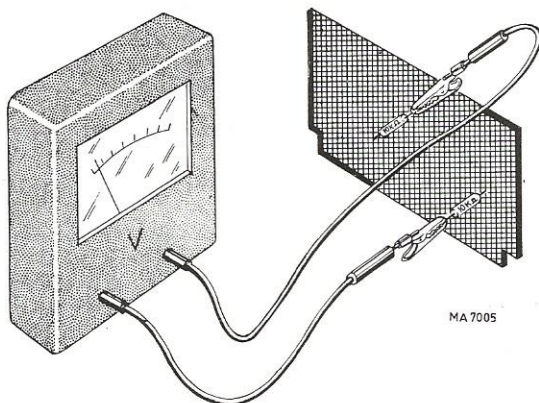
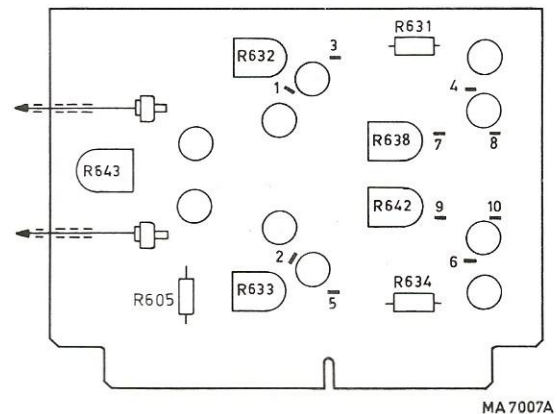

Fig. XI-3. A 10 k $\Omega$  resistor fixed on each test pin to avoid parasitic oscillations
Fig. XI-4. Test points vertical output amplifier
- Connect the voltmeter as indicated in Fig. XI-3 via 10 k $\Omega$  resistors between the emitters of TS601 and TS604 (points 1 and 2 in Fig. XI-4).
- The voltages across R639 and R641 (points 7-8 and 9-10 respectively in Fig. XI-4) must be 3.1 V + or –200 mV. If necessary, these voltages can be adjusted with R638 and R642 respectively (the voltmeter may here be used without series resistors).
- Connect the voltmeter (as indicated in Fig. XI-3) between the collector of TS606, and the junction of TS608 and TS609 collectors (points 3 and 4 in Fig. XI-4).
- Connect the voltmeter (as indicated in Fig. XI-3) between the collector of TS607, and the junction of TS611 and TS612 collectors (points 5 and 6 in Fig. XI-4).